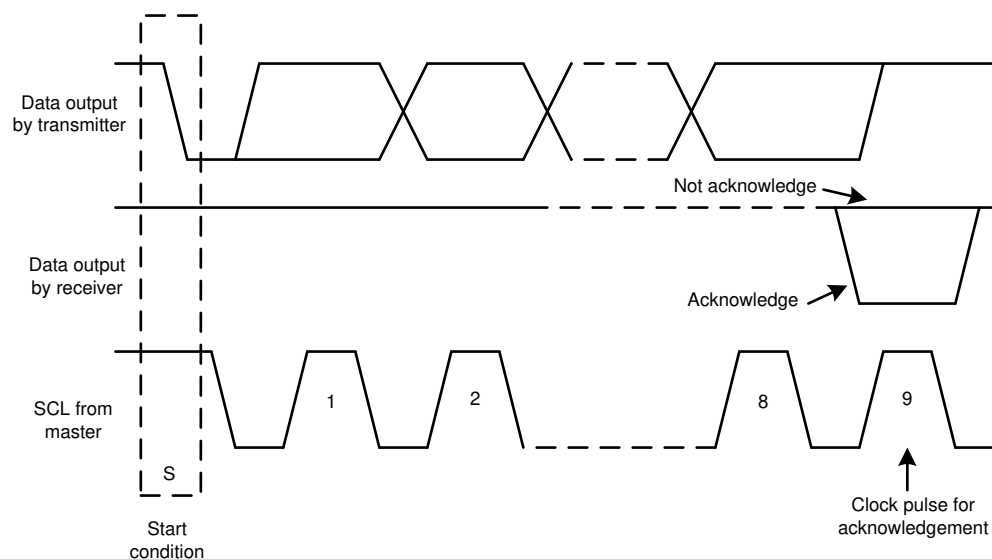
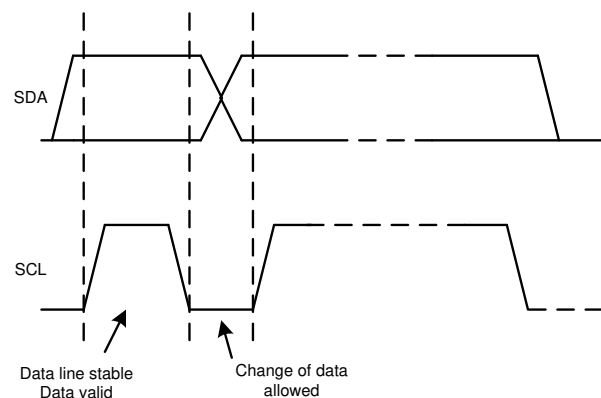

Figure 7-2. Acknowledge and Not Acknowledge on the I²C Bus
図 7-4. Bit Transfer on the I²C Bus
Other than specific timing signals, the I²C interface works with serial bytes. At the end of each byte, a ninth clock cycle generates and detects an acknowledge signal. Acknowledge is when the SDA line is pulled low during the high period of the ninth clock cycle. A not-acknowledge is when the SDA line is left high during the high period of the ninth clock cycle as shown in Figure 7-2.
2. The master then generates the SCL pulses, and transmits the 7-bit address and the read/write direction bit (R/W) on the SDA line. During all transmissions, the master makes sure that data are valid. A valid data condition requires the SDA line to be stable during the entire high period of the clock pulse, as shown in 図 7-4. All devices recognize the address sent by the master and compare the address to the respective internal fixed address. Only the slave device with a matching address generates an acknowledge by pulling the SDA line low during the entire high period of the ninth SCL cycle, as shown in 図 7-2. When the master detects this acknowledge, the communication link with a slave has been established.
4. To signal the end of the data transfer, the master generates a stop condition by pulling the SDA line from low-to-high while the SCL line is high (see 図 7-4). This action releases the bus and stops the communication link with the addressed slave. All I²C-compatible devices recognize the stop condition. Upon receipt of a stop condition, the bus is released, and all slave devices then wait for a start condition followed by a matching address.